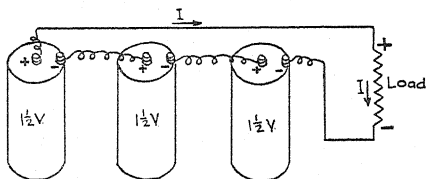

FIG. 62. Series connection for greatest voltage.
72. **Connections for Most Voltage.** Connecting generators or batteries in series will produce the greatest voltage, provided one precaution is observed. Always connect the units as shown in Figure 62, with + to — connections so the current never flows the wrong way through any one unit. "B" batteries for radio use are wired this way, with all cells in series.
In a series battery circuit, the voltages add. For example, in the circuit in Figure 62, the total voltage will be about 1.5×3 or 4.5 volts. The current through each cell will, of course, be the same.